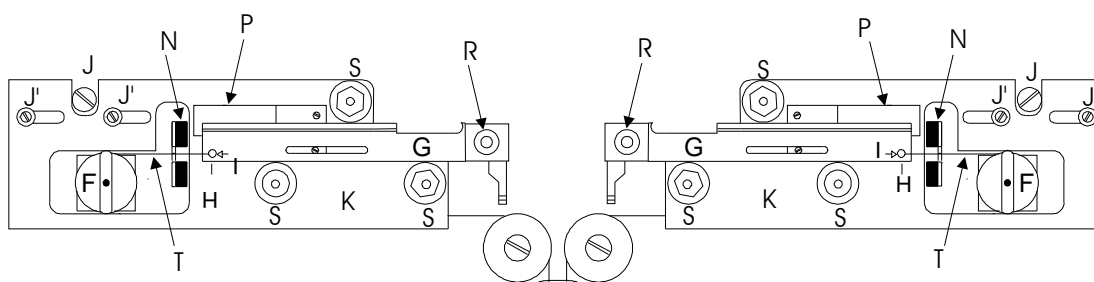

Figure 5. Upper Cable Pulley Assembly
This assembly conducts the PULLING CABLES (**T in Figure 5**) from the PULLER BARS (**G in Figure 5**) to the centrally located (and concealed) LOWER CABLE PULLEY ASSEMBLY. Note that the UPPER CABLE PULLEY ASSEMBLY is attached to its panel by two screws, in slots (**J' in Figure 5**), and contains a large eccentric adjustment screw (**J in Figure 5**). This eccentric screw is used to adjust cable “tension”. Its use is covered in the maintenance section.
PANELS, LEFT & RIGHT (K in Figure 5) The panels are the angled surfaces that provide mountings for the PULLER BARS and their BEARINGS; the SPRING STOPS; the BUMPERS; and the UPPER CABLE PULLEY ASSEMBLIES. Except for minor differences in shape, the left and right PANELS are identical. Note the three socket-head cap screws that attach each PANEL to the top. These screws are used to align the PULLERS BARS. Their use is covered in the Maintenance chapter.
BUMPERS (N in Figure 5) The BUMPER stops the motion of its associated PULLER BAR, and prevents impact forces from breaking pipettes.
SPRING STOPS (P in Figure 5) The SPRING STOPS are one way catches that prevent pipette tip collision by catching the PULLER BARS as they rebound off the BUMPERS.
- PULLER BARS** (G in Figure 5) This assembly consists of the puller bar, glass clamp, clamping knob and cable retaining screw. The puller bar is made of mild steel and coated with a controlled thickness of hard chrome. Glass is loaded into the groove near the tip of the puller bar and is held in position by tightening down the clamping knob (**R**). The cable retaining screw (**H**) holds the cable in a shallow groove (**I**) at the end of the puller bar, and forms the “resistance” against which the cable ends pull. If you are going to use the P-2000 for pulling glass with a diameter less than 0.6mm you will need to have “Fiber” puller bars installed. These bars have a shallower groove for the glass.
- V-BEARINGS** (S in Figure 5) These bearings are the guides for PULLER BAR motion. They are made of stainless steel and should NEVER be oiled (see maintenance section). Note that these bearings are mounted on stainless steel bushings one of which is round with the other two being hexagonal. The hexagonal bushings are used to adjust position and ease of travel of the PULLER BARS (see MAINTENANCE Chapter).
- PULL CABLE** (T in Figure 5) This cable conducts the pulling force of the solenoid to the PULLER BARS via the UPPER (**F**) AND LOWER PULLEY ASSEMBLIES. It is made of flexible metal with a nylon coating. Never pinch or distort the cable. The cable is terminated with crimped-on clamps or “swages”.